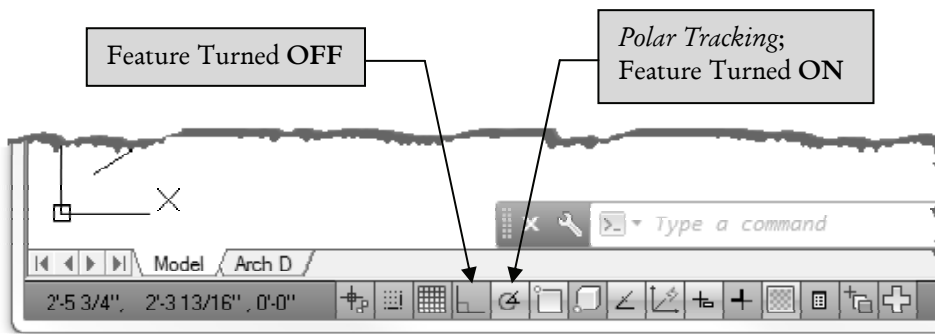

FIGURE 2-1.9 Status Bar – shown with Polar (i.e., Polar Tracking) turned on.
- On the *Status Bar*, make sure **Polar Tracking** is turned on. (Figure 2-1.9). *It should have a bluish background.*